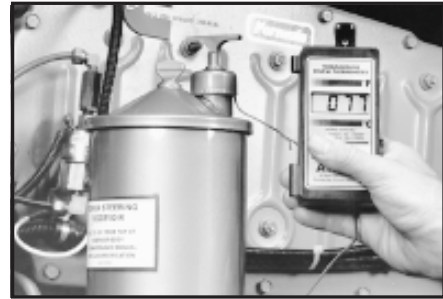
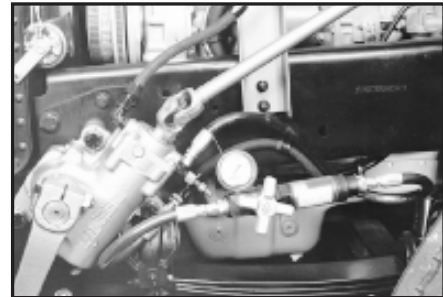

Figure 5.1
Figure 5.2
1. Install temperature gauge in reservoir. *Figure 5.1*. Install PSSA in pressure line with shut-off valve fully open. *Figure 5.2*.
1. Install temperature gauge in reservoir. *Figure 5.1*. Install PSSA in pressure line with shut-off valve fully open. *Figure 5.2*. Park the vehicle outside. Record ambient temperature. Run the engine at governed RPM for 40 minutes to bring the fluid up to an elevated testing temperature. Measure and record the fluid temperature at the start and at 10, 20, 30 and 40 minutes. Do not allow the temperature to exceed 250° F (121° C).